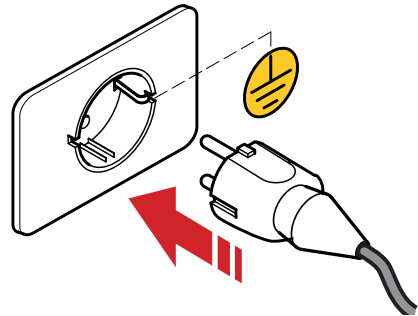

Fig. 12
- Return the coffee grinder-doser to the vertical position, then connect the cable to the provided power socket (Fig. 12).